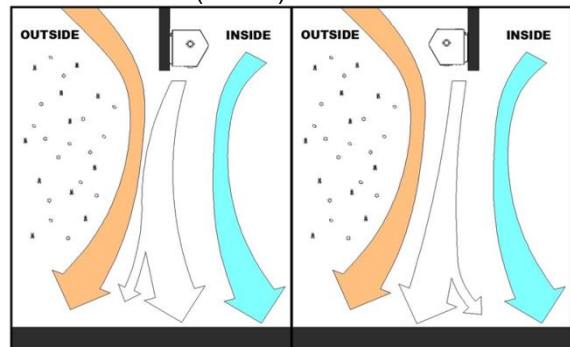

FIG. 7
- H. Regardless of whether the product is mounted on the inside or outside of the door opening, set the air directional vanes in the discharge nozzle slightly outward to approximately 10-15° towards the outside, or the wind load (FIG. 7).